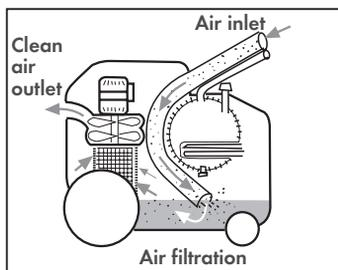

Fig. 7
By filling the recovery tank (G) with 2.5 litres of clean water, you will ensure that the air is filtered and impurities (dust, germs, etc.) are trapped in the tank (G). (Fig. 7). When using the appliance, always make sure not to exceed the maximum level in order to prevent any water sprinkling out from the muffler.